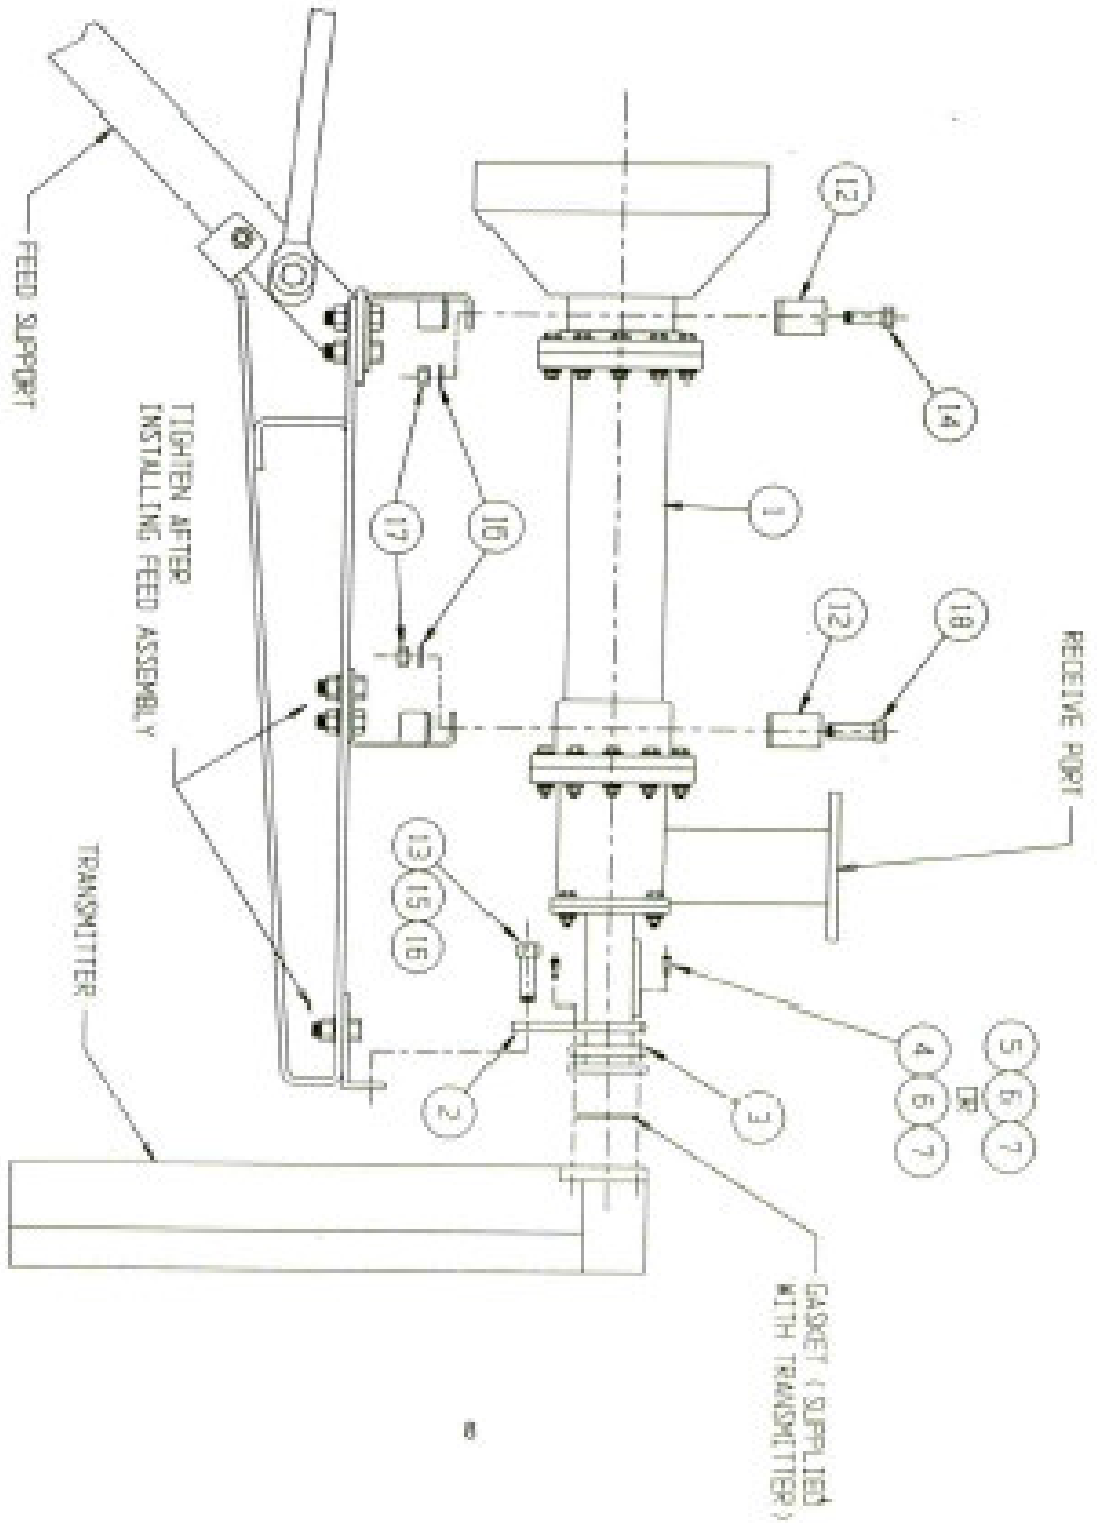

FIGURE 2
- STEP 1:** Assemble the ODU to the Tx port of the feed assembly (item #1) with the disc and spacer, as shown in figure 2. Place the gasket (supplied with ODU) between the feed and ODU flanges. Use the 2 short #10 screws (item# 4) in the top 2 holes, and the 6 long #10 screws (item #5) through the disc and spacer. Use lockwasher and flatwashers (item #6,7) as shown. Tighten securely.
- STEP 3:** Place the completed feed assembly on the support bracket, with the neck of the feed horn in the front feed mounting bracket, the back of the polarizer in the back feed mounting brackets, and the disc on the inside of the angle. Secure with the top feed mounting bracket (item 12) using [2] 5/16-18 x 1.00" bolts, [2] lockwashers, and [2] 5/16-18 hex nuts (items 14,16,17) at the feed horn, and [2] 5/16-18 x 1.50" bolts, [2] lockwashers, and [2] 5/16-18 x hex nuts (items 18,16,17) at the polarizer.